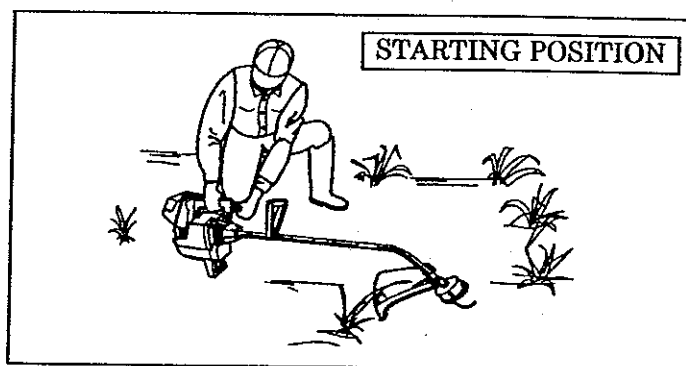

Figure 9
- Extend line approximately 6 inches from Trimmer Head to provide adequate load on engine. Figure 9.
- Rest Engine and Shield on ground, supporting Trimmer Head off ground away from trees, bushes, onlookers, etc. Figure 9.